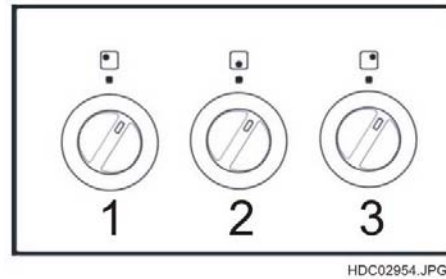

Fig. 44
1. Knob number 3 must be set to minimum (see Fig. 44).